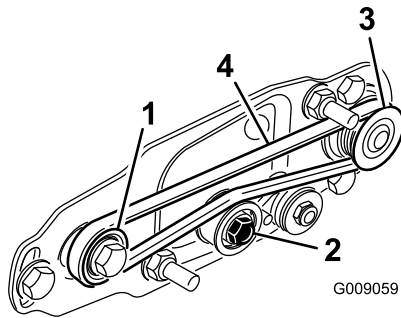

Figure 23
- A. Loop the belt around the **drive** pulley and then over the top of the idler pulley (Figure 23).
- B. Start the belt on the **driven** pulley (Figure 23).